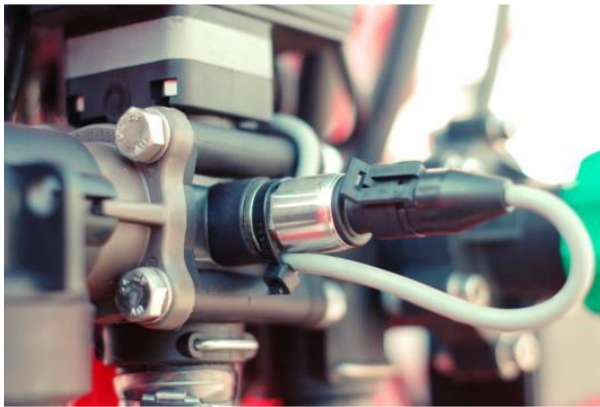

Figure 58
- The pressure sensor (signal and power cable) in the electrical cabinet connects to the location indicated in the figure (Figure 58).